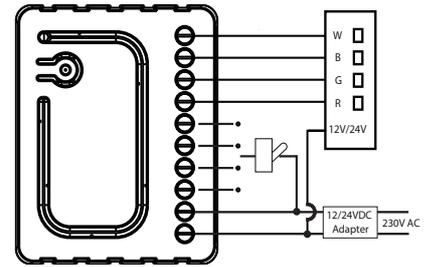
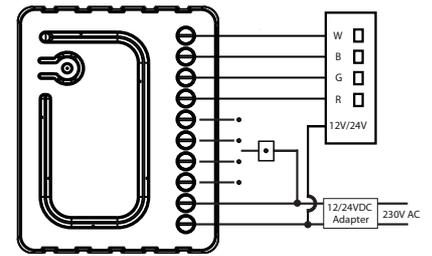

Figure 2. Connecting toggle switch
Figure 3. Connecting push switch
- Connect the R.G.B.W. Color LED Dimmer according to Figure 2, or Figure 3.